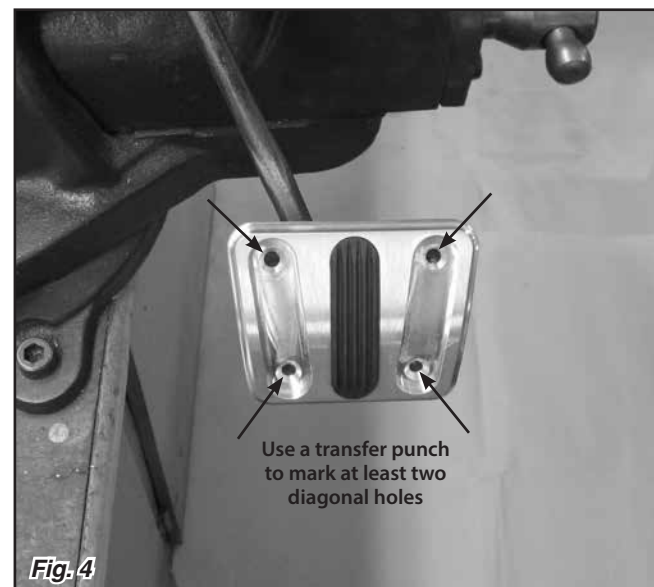

Fig. 4
Step 3: Each aluminum pedal pad has four mounting holes in order to accommodate several applications. Typically only two mounting holes are used on an installation. Choose two (or more) mounting holes that will not interfere with the pedal arm. If only using two holes, make sure that they are diagonal from each other. We recommend using a 3/16" transfer punch to accurately mark the holes. The marks must be centered in the holes on the aluminum pedal pad. **Fig. 4**